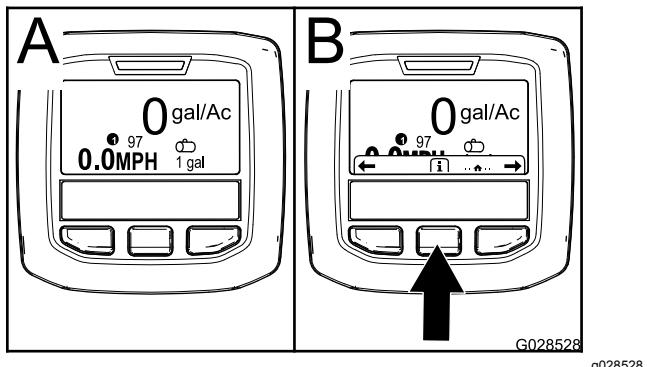

Figure 50
2. After approximately 15 seconds, the home screen will appear, press the center selection button to display the information context (Figure 50).